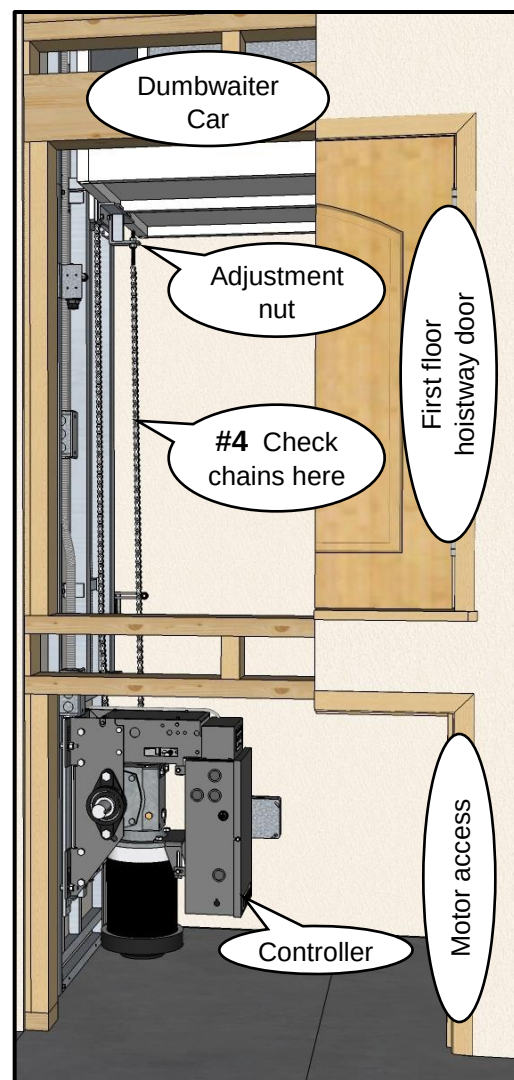

Figure 7
- 1** From the first floor, open the hoistway door and motor access panel / door. **(see Figure 7)**
(see Figures 7, 9 & 10)
- 4** Verify that both the front and back chains are taught at chest height. **(see Figure 7)** If there is any slop in the chain continue on to the next step. If the chains are both taught go on to **Step 6**.